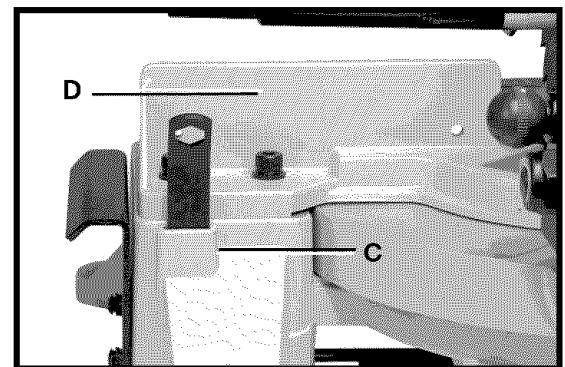

Fig. 16
The blade removal wrench storage (C) Fig. 16 is located behind the opposite fence (D).